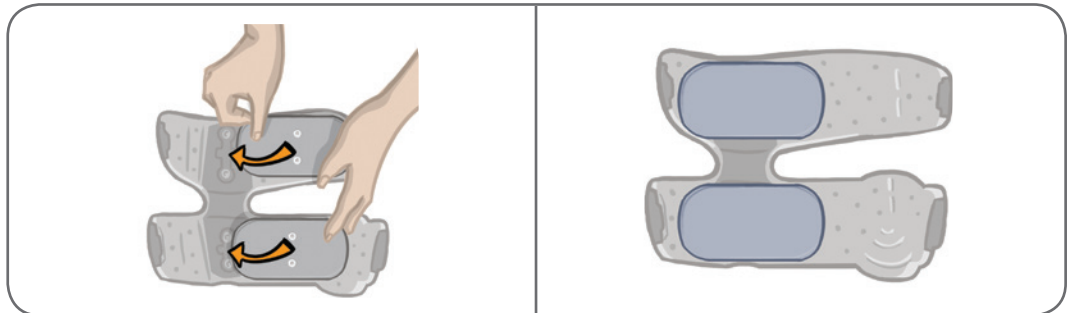

Figure 6-10: Aligning and Attaching the Thigh Cloth Electrodes
5. Align the snaps on the Thigh Cloth Electrodes to the plug holes on the thigh FS Cuff. See Figure 6-10.
6. Press firmly to snap the small Thigh Cloth Electrode to the thigh FS Cuff bottom panel. Press firmly to snap the large Thigh Cloth Electrode to the thigh FS Cuff top panel. See Figure 6-10.